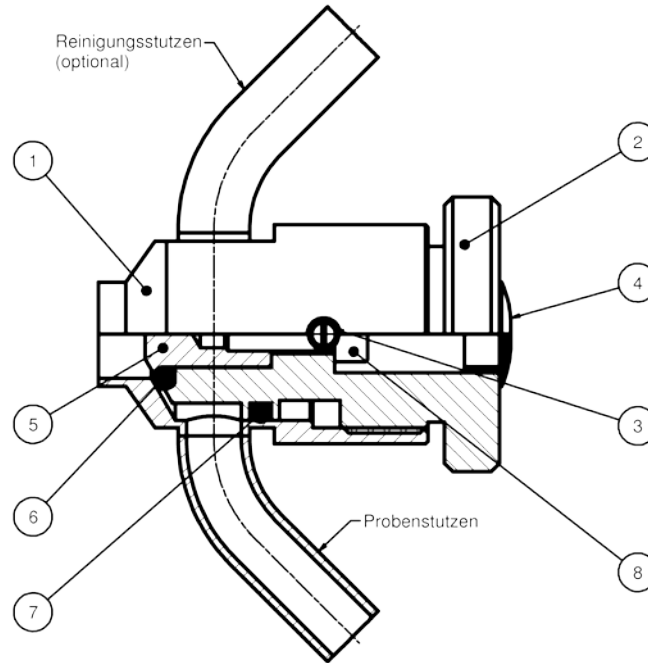

Fig. 1 Sectional view of sampler with o-ring (dimensions see chapter 10.1)
- The sampler must be installed in such a way that liquids can drain completely from the sampling socket (see Fig. 1).